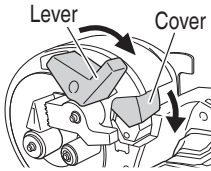

Fig. 43
- Make absolutely sure that the cutter cover is closed when you don't carry out the cutting work. If the cover is kept open, the cutter can jam on foreign objects and cause serious accidents. (Fig. 43)